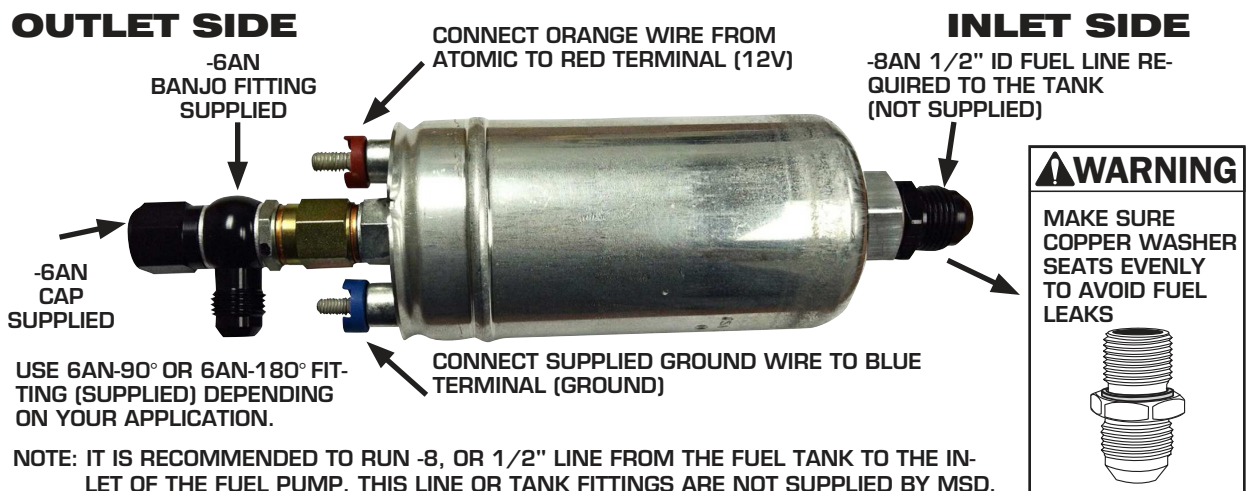

Figure 1 High Horsepower Fuel Pump Assembly.
2. Before mounting the pump, it is recommended to install the supplied fittings and the ground wire. See Figure 1.